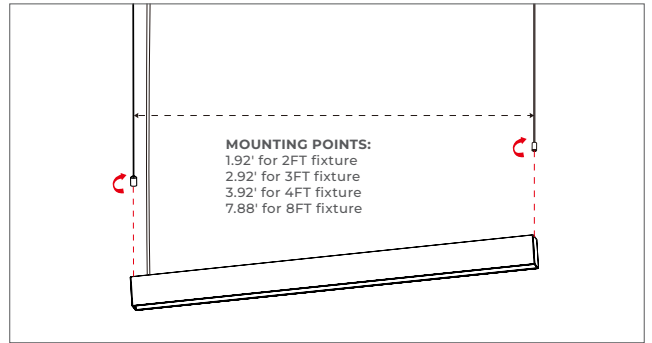

FIGURE 3-5
5) To install, screw aircraft cables clockwise onto top of fixture housing. (Figure 3-5)